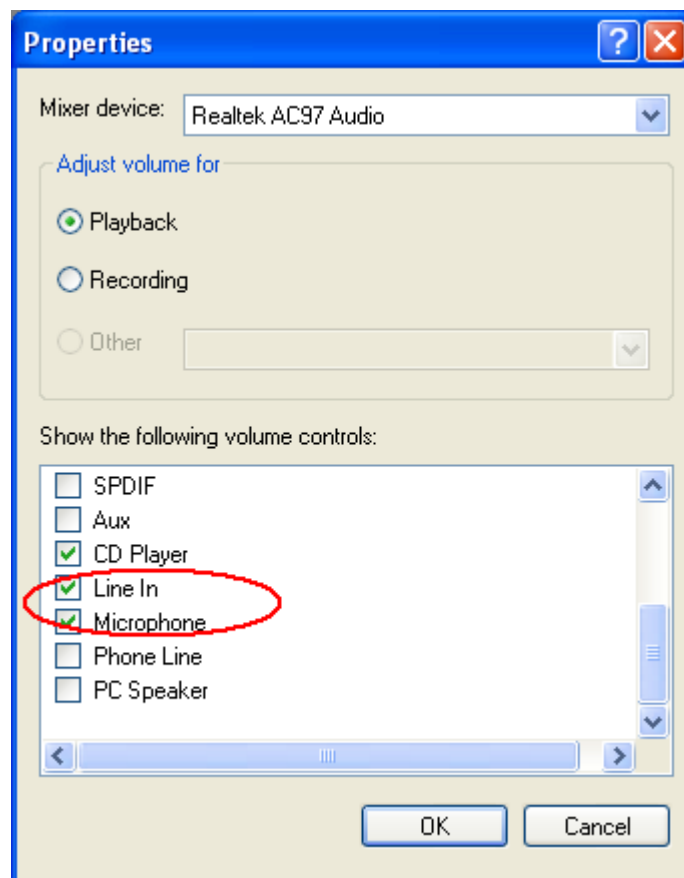

Figure 4-6 Properties
c) If the line in or/and microphone volume control is/are not shown in the Volume Control menu, click on **Options** > **Properties**, tick **Line In** and **Microphone** as shown in figure 4-6, click on **OK**: